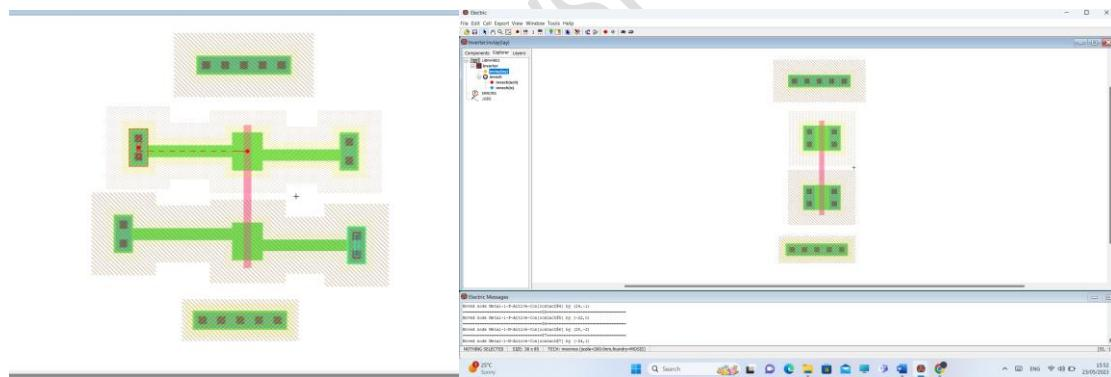

Figure 1.39: Connecting the components.
6. Make connections between components (Click on the mouse's left button on one of the terminals of the component, then click on the terminal that you want to link with by clicking the mouse's right button). (See Figure 1.39).